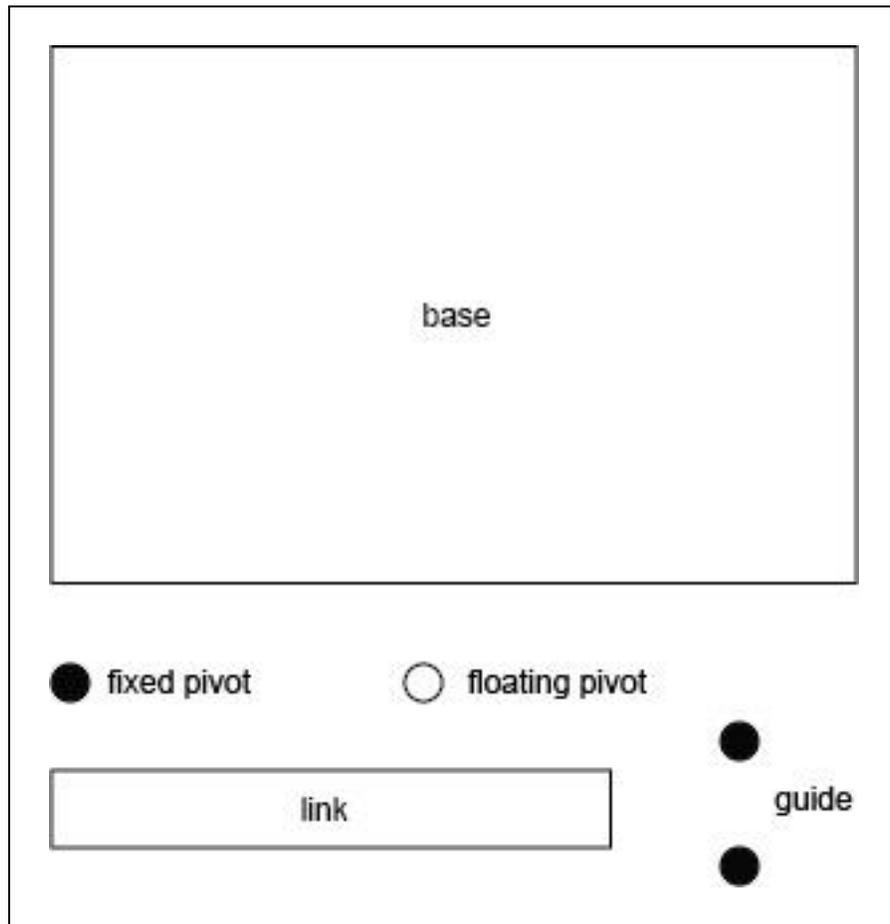

Figure 2: Chart showing standard mechanism symbols
- ✎ Post a sheet of chart paper showing the Standard Mechanism Symbols (see Figure 2).